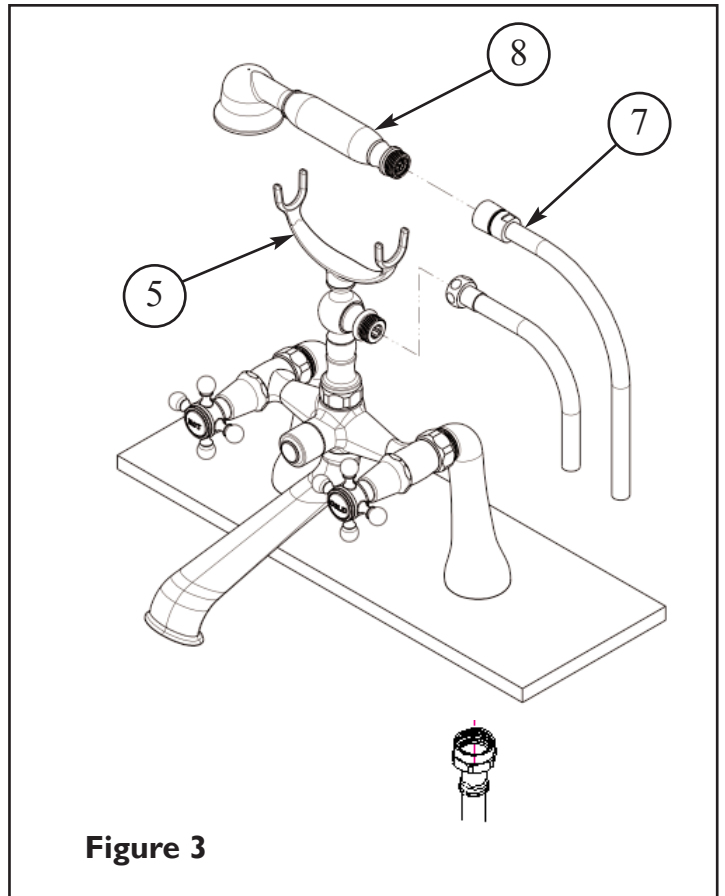
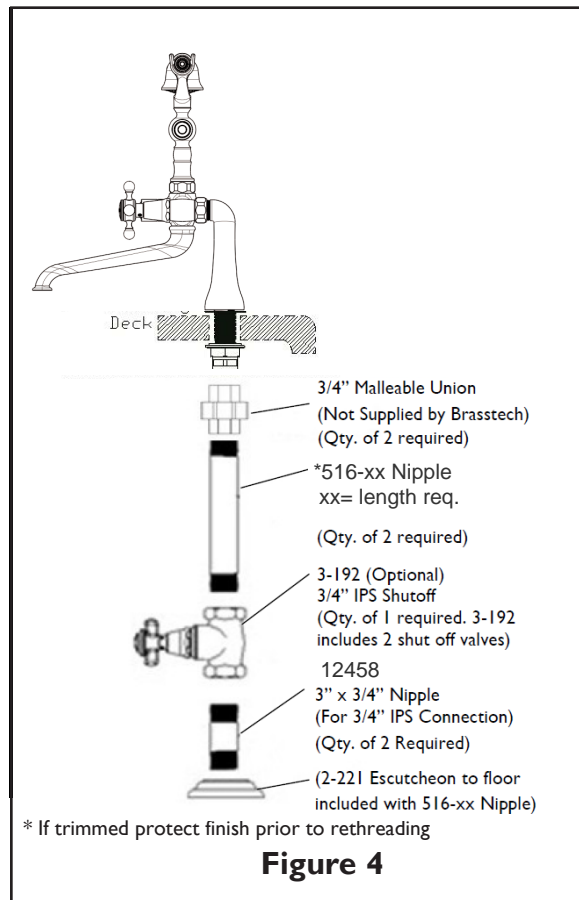

Figure 3
Figure 4
3. Attach the flex HOSE (7) to RISER (5) and hand SHOWER (8). (Hand-tighten and secure each connection with a wrench 1/4 turn.) See Figure 3.
4. Connect hot/cold water supply to appropriate 3/4" NPSM valve BODY (6), utilize adapter I1068 if 3/4 NPT is required. Supply risers not included. See Figure 3. For exposed installation see Figure 4.